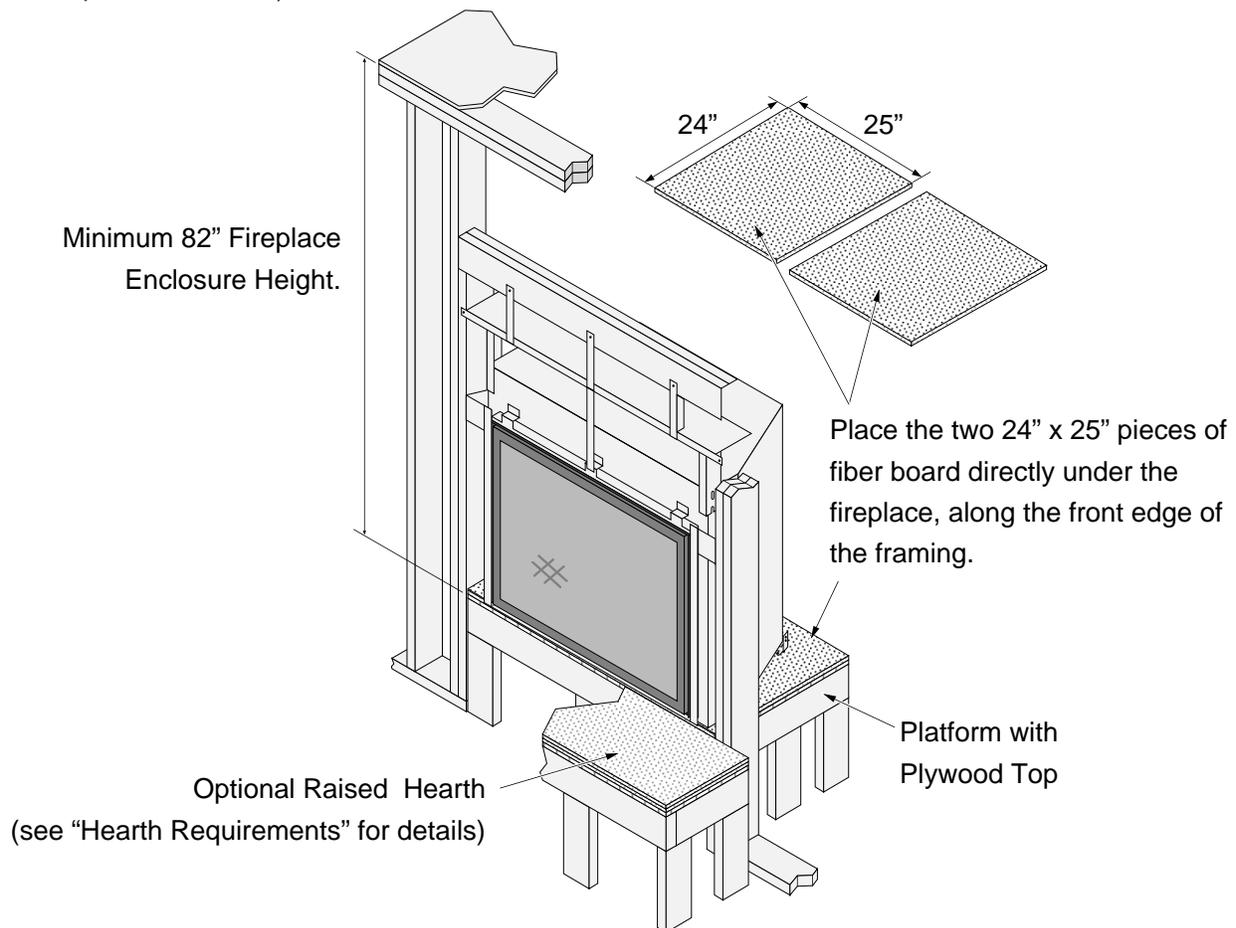

Figure 6
- Fireplace must be placed on the two 25" by 24" pieces of fiber board (see Figure 6). The fiberboard must be placed on the sub-floor or a wood platform (not on linoleum or carpet).